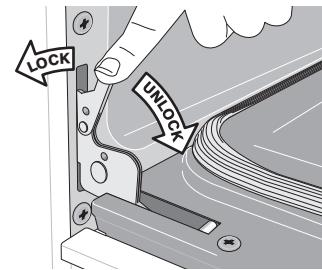

Figure 18: Door hinge locks
2. Pull the door hinge locks on both left and right door hinges down from the oven frame completely towards the oven door (See Figure 18). A tool such as a small flat-blade screwdriver may be required.
4. Push the door hinge locks up towards and into the oven frame on both left and right oven door hinges to the locked position (See Figure 18).